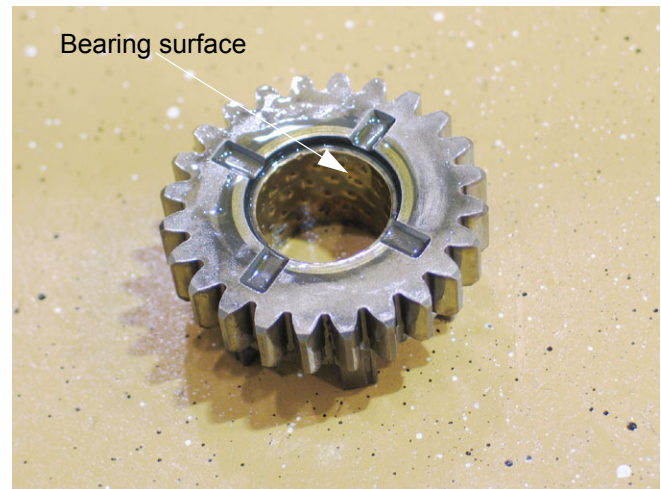

Figure 9.54
- 9.54. Inspect the bearing surfaces on the input shaft and 24-tooth forward gear. See Figure 9.54.